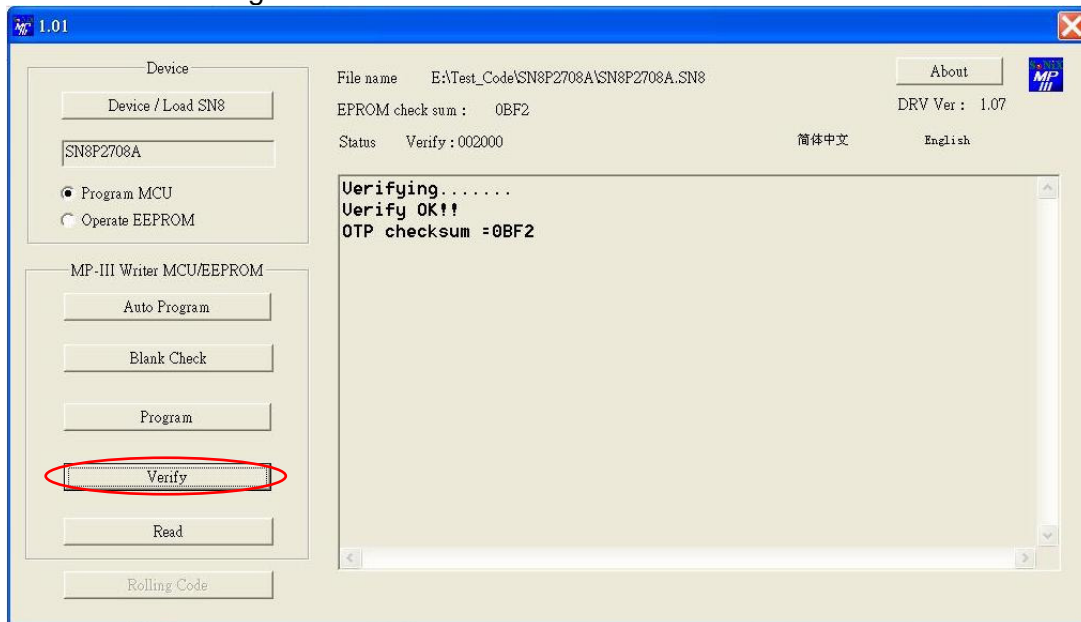
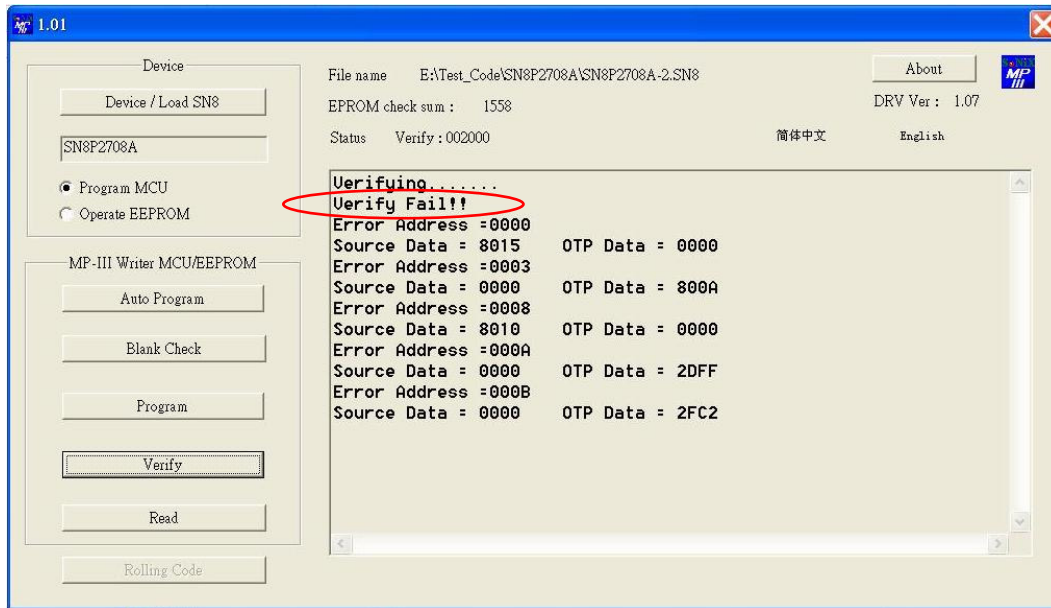

Figure 14 Verification, data correct
Figure 15 Verification, data error
- Click “Verify” button, only check whether the code programmed to chip is correct or not, correct data verification is shown in figure 14, error data verification will show error address and error data as shown in figure 15: